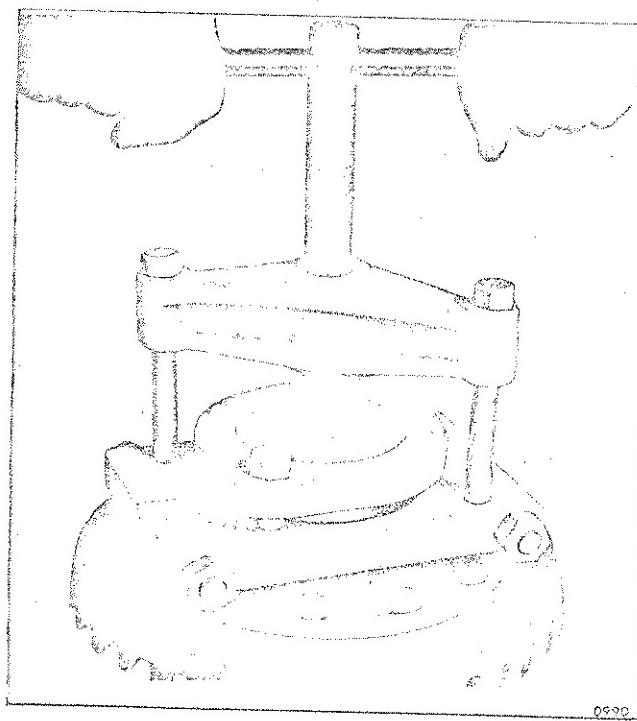

Figure 2—Removal of Differential Side Bearings
- Use CS-1047 puller (fig. 2) to remove bearing cones which are pressed on hubs. This